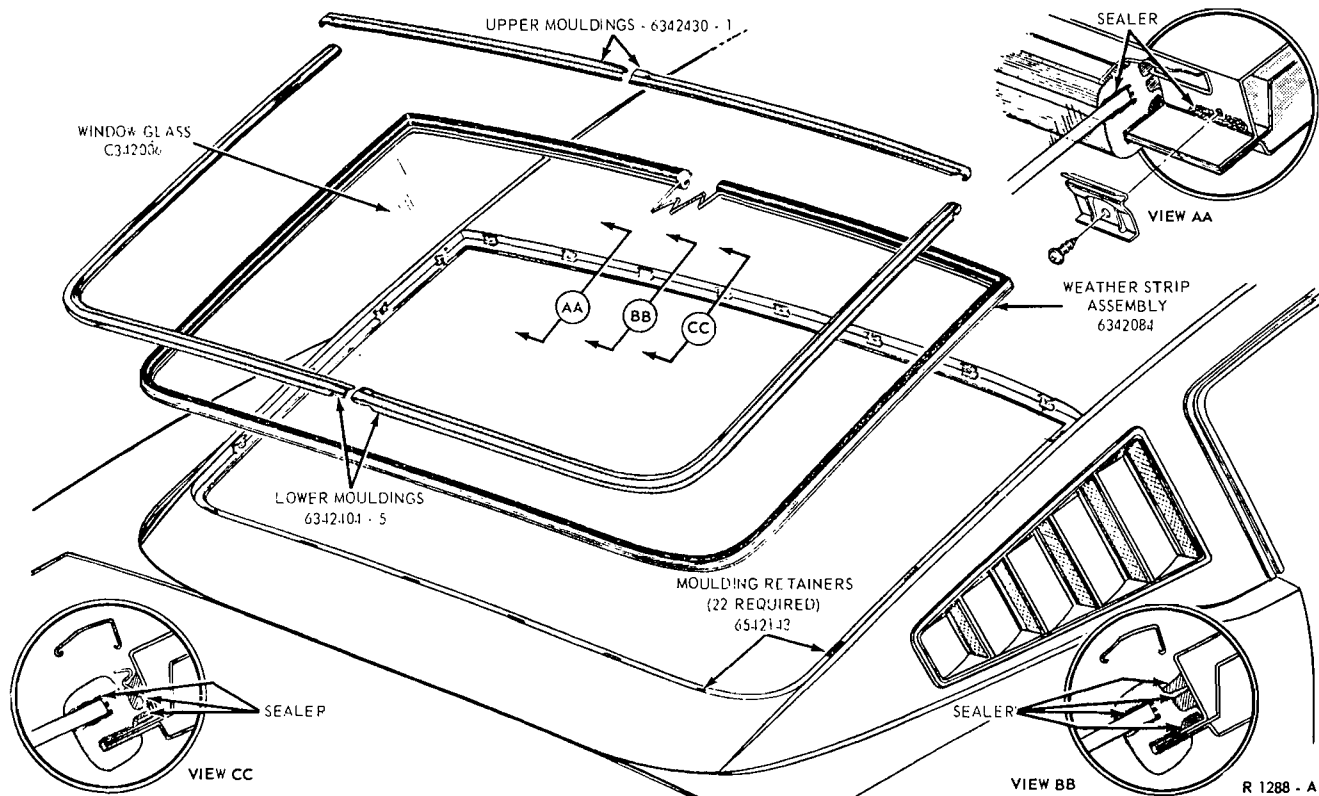

FIG. 31—Back Window Installation—Mustang Model 63
7. Using moulding removal Tool T64P-42006-A or B, remove the back window exterior mouldings in the following order: right upper moulding, right lower moulding, left upper moulding and left lower moulding (Fig. 31).